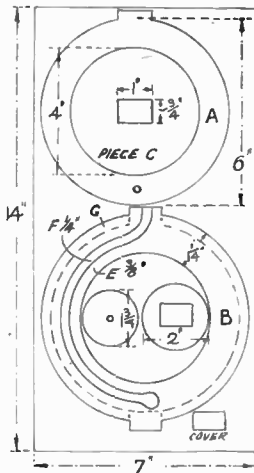
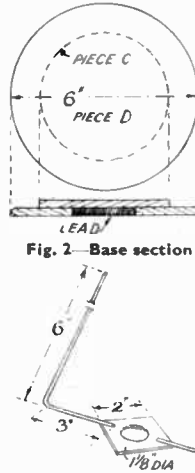

Fig. 1—Detail of parts
Fig. 2—Base section
A study of the illustrations before a start is made on the work will be sufficient to make the method clear. Two circles of $\frac{1}{2}$ in. wood are wanted as (A), in Fig. 1, the central inner disc (C) of one when cut round and removed will answer for the upper layer of the base, see Fig. 2, which gives a cross section of the base made up of the two pieces.
The larger piece as (B) on the panel in Fig. 1 is $6\frac{1}{2}$ ins. diameter, with a disc 4 ins. diameter cut from the middle in a similar manner to (A). From this latter piece two smaller discs are cut and glued to the frame. The disc shown 2 ins. diameter will be glued at the top of frame (B), and over the tenon, and the smaller disc, $1\frac{1}{2}$ ins. diameter will be screwed on top of this disc with a hole in the middle for the flex to protrude, and follow up to the lamp holder.